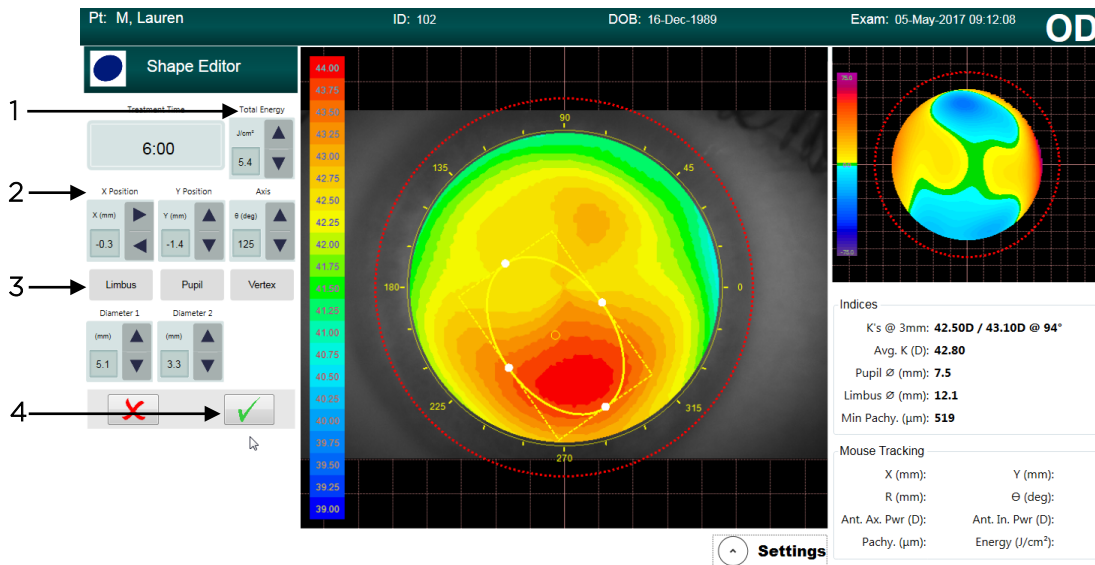

Figure 5-7. Selecting Energy Dose and Centering Shape
- As shown in Figure 5-7, select the up/down arrow (1) to adjust the energy required for the specific treatment shape. Treatment time automatically adjusts itself based on energy dose selected.
- Use the X Position and Y Position (2) to adjust the location or center around the Limbus, Pupil or Vertex (3) by selecting one of the three buttons.
- Press green checkbox (4) to continue.